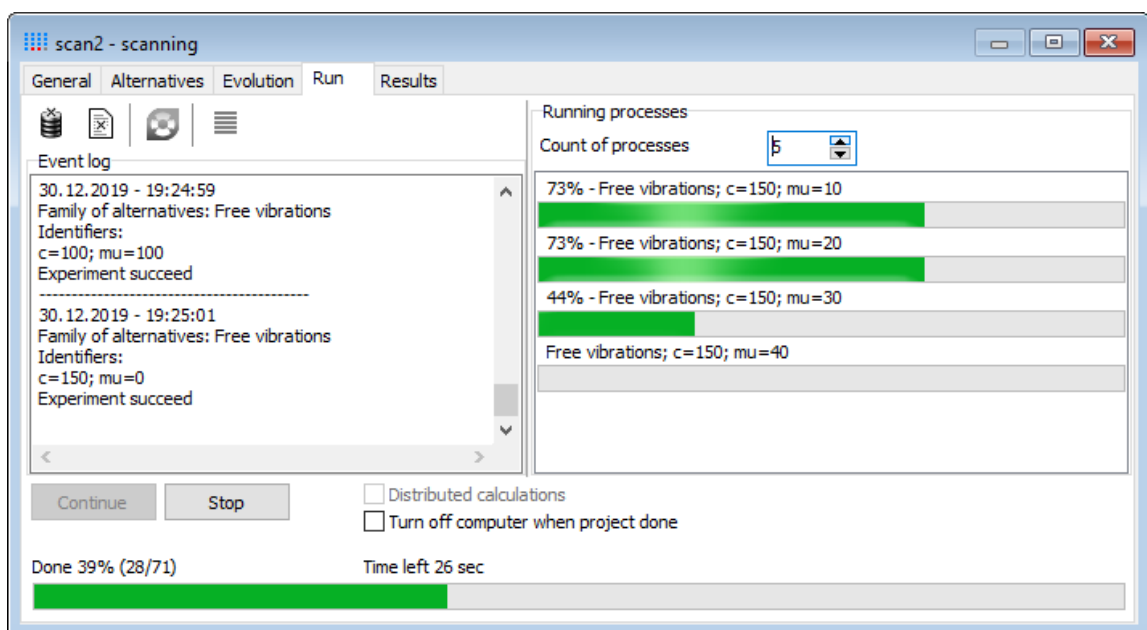

Figure 1.3. Running the scanning project
- The researcher runs the scanning project and all numerical experiments are finished automatically, possibly with the help of **UM Cluster**, see Figure 1.3.